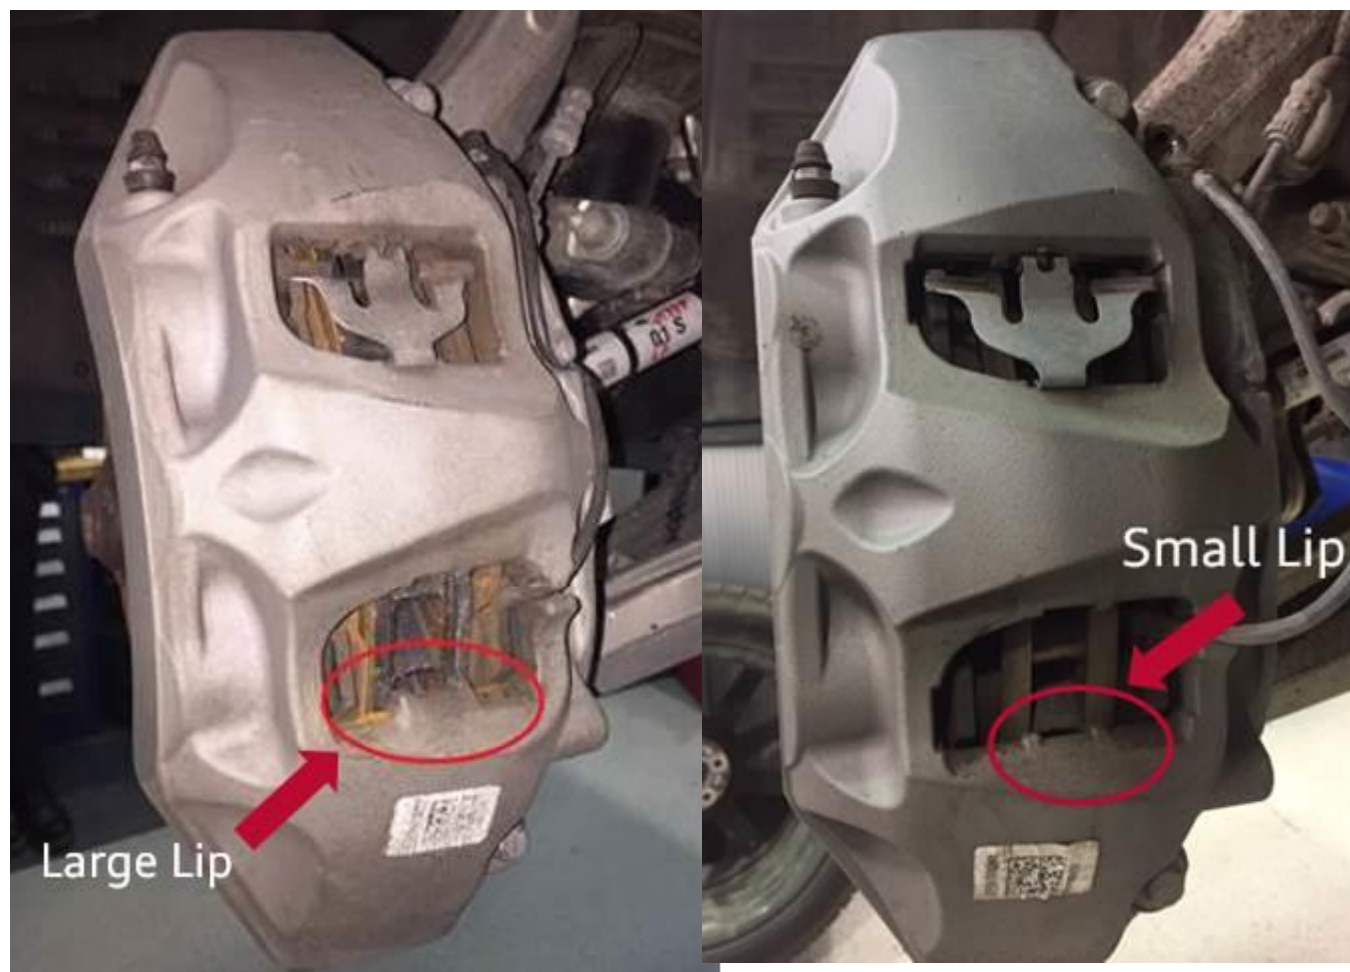

Figure 1. Caliper casting lip configurations.
1. Identify the caliper casting lip installed in the vehicle. There are 2 possibilities of lip; large and small. (Figure 1).